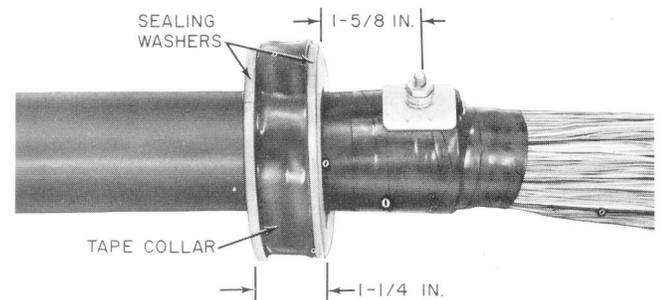

Fig. 7—Sealing Washers in Place
4.07 Place the sealing washers into position on both sides of the tape collar. The collar, including the washers, should not be more than 1-1/4 inches wide as shown in Fig. 7.